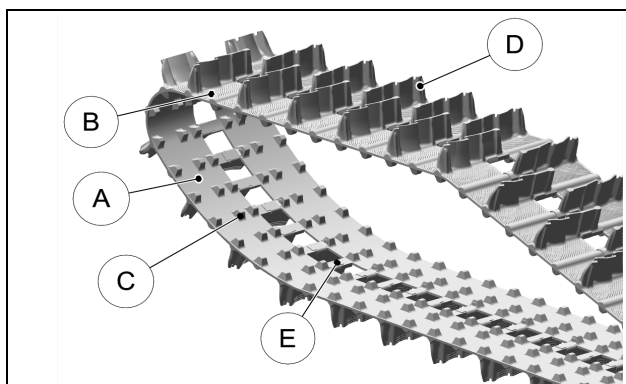

Figure 29
Verify wear on Track by inspecting the internal (A) and external (B) condition of the Track's carcass rolling path, driving lugs (C), the profile (D). Make sure that the Track's internal structure is not visible at cuts or in worn areas. Make sure the steel clips (E) are not abnormally worn. See Figure 29.